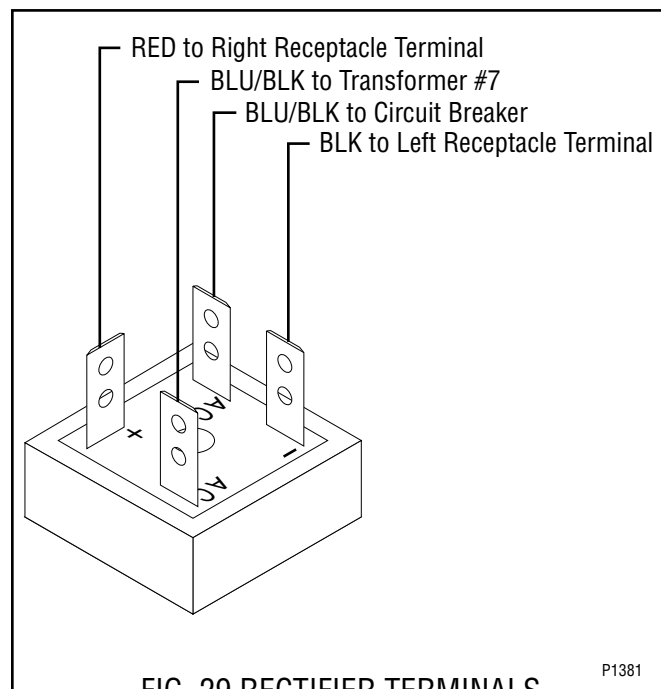

FIG. 29 RECTIFIER TERMINALS
5. Refer to Fig. 29 when reconnecting the wires.